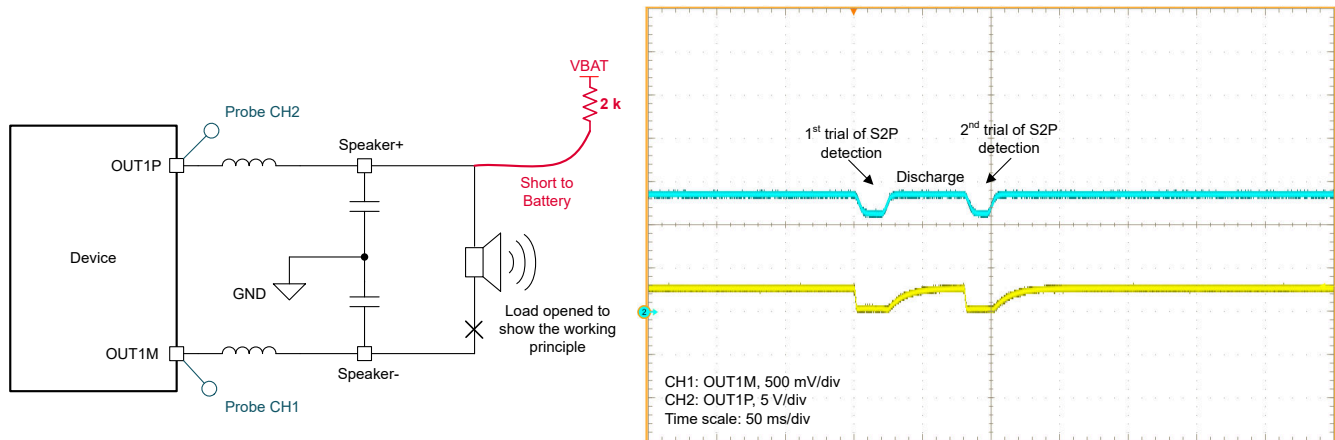

Figure 2-8. DC Load Diagnostic Waveform With a S2P Fault
Figure 2-8 shows the waveforms of the short-to-power (S2P) load fault condition in the case where the DC load diagnostic was run on a single channel. In this test, the speaker terminal connected to OUT1P was shorted to battery via a 2-kΩ resistor. To show the working principle more clearly, no load (OL) was connected between the output speaker terminals. The waveform shows that the internal circuit sinks 1-mA current from the OUT1P pin during the S2P detection, the voltage on OUT1P had an approximate 2-V drop due to the 2-kΩ resistance to battery. The voltage is still above the S2P threshold is thus reported as an S2P fault. An auto-retry was executed after S2P fault detected in the first trial. Figure 2-8 also shows that the DC detection did not proceed to S2G, OL or SL tests with the S2P fault present; therefore, the OL is not reported in the DC load diagnostics fault registers: 0xC0 and 0xC1.